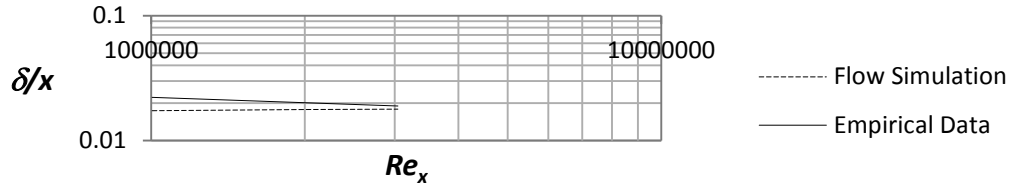

Figure 2.30b) Boundary layer thickness for turbulent boundary layers at  $Re_x = 10^6 - 4.04 \cdot 10^6$
Place the file “**graph 2.30b)**” on the desktop. Repeat step 24 and choose the sketch  $x = 0.2, 0.4, 0.6, 0.8$  m and check the box for **Velocity (X)**. Rename the xy-plot to **Turbulent Boundary Layer Thickness**. An Excel file will open with a graph of the boundary layer thickness versus the Reynolds number, see figure 2.30b).